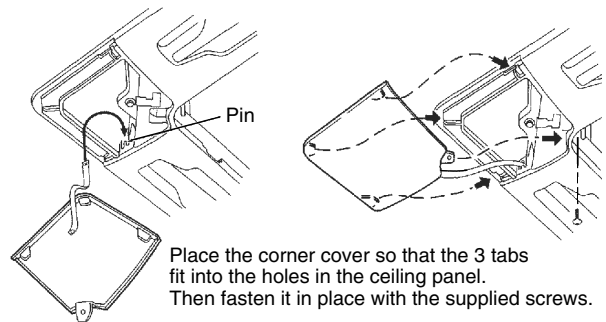

Fig. 9-13
- (1) Check that the safety cord from the corner cover is fastened to the ceiling panel pin. (Fig. 9-13)
- (2) Use the supplied screws to attach the corner cover to the ceiling panel.